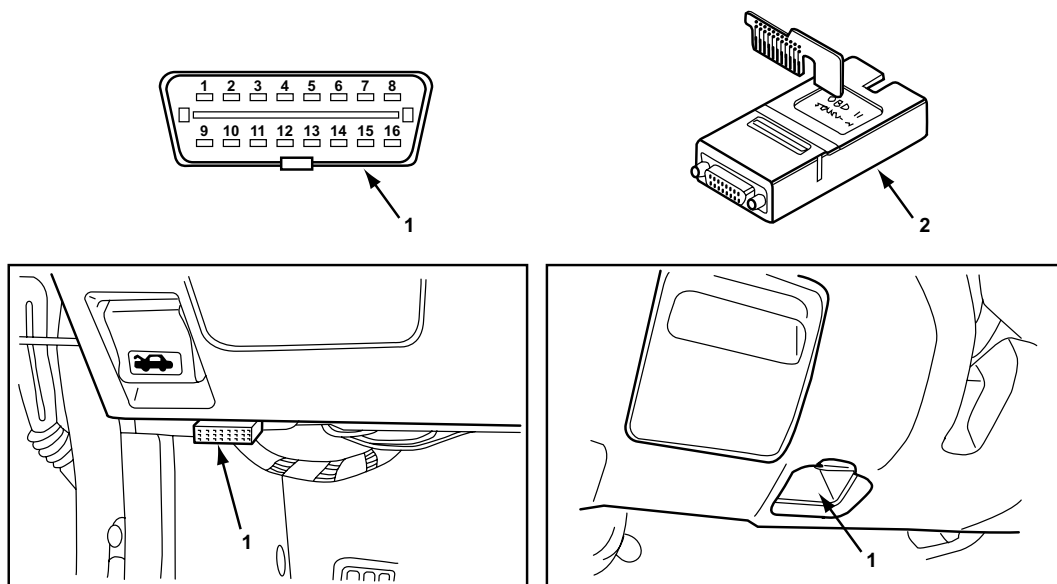

Figure 15-60 16-Pin OBD-II connector and common locations
- 2005 Legacy/Outback Sedan and Wagon (Figure 15-60)
- 2006 All Models except Baja (Figure 15-60)
1. Use the OBD-II adapter with the specified Personality Key™ device (Figure 15-60).